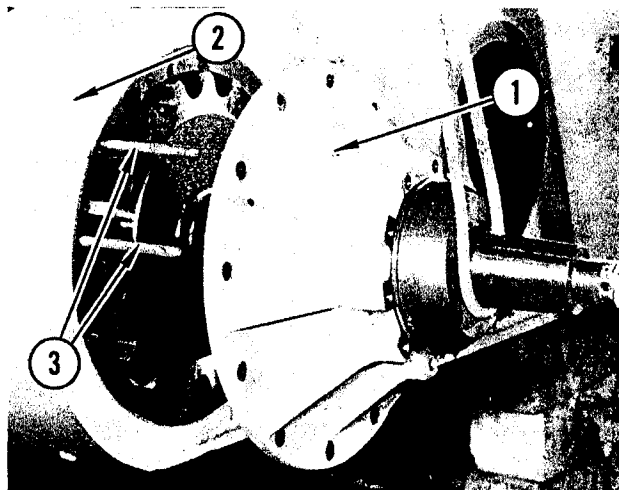

FIGURE 108. HOUSING REMOVAL
Remove twelve capscrews and lockwashers retaining outer eccentric housing (1) to tandem case (2). Install two guide pins (3). Work outer eccentric housing out far enough so that sling can be attached as shown in Figure 108.